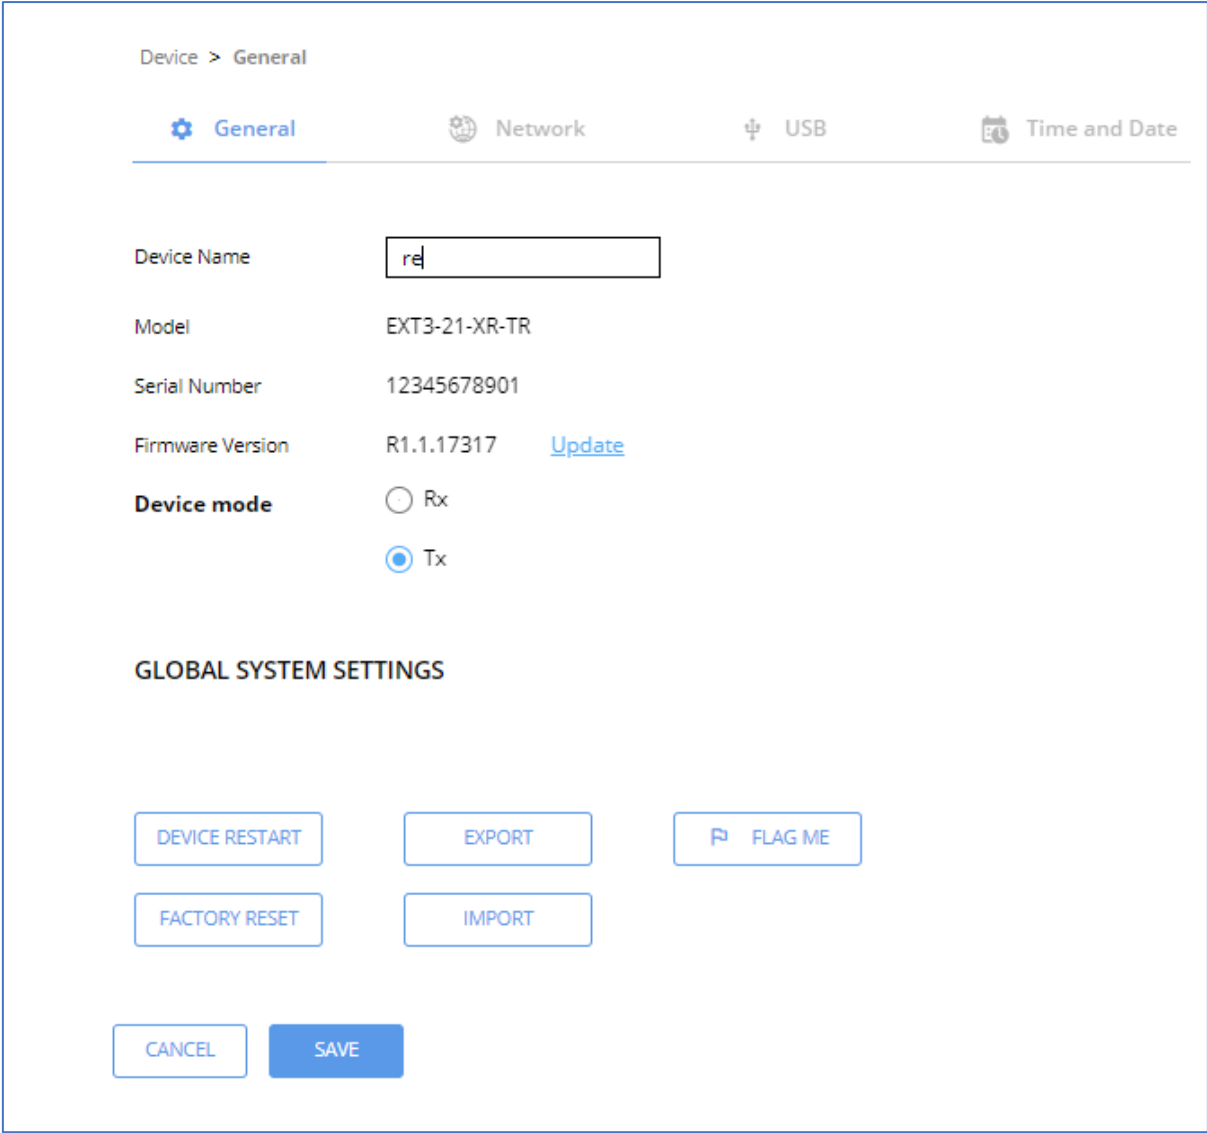

Figure 23: Device > General Tab
1. Go to the **Device > General** page (Figure 23).
- Click **DEVICE RESTART** on the **Device > General** page (Figure 23).
- Click **FACTORY RESET** on the **Device > General** page (Figure 23).